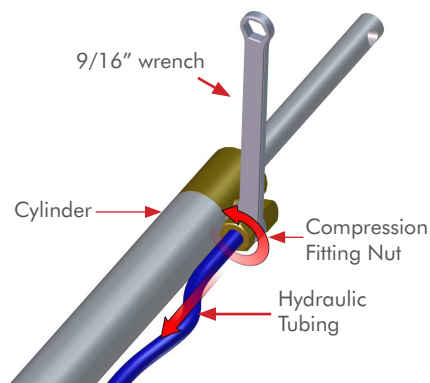

Figure 1
STEP 1 Cut the zip tie securing the **BLUE Hydraulic Tubing** to the **Cylinder** and use a **9/16"** wrench to unscrew the **Compression Fitting Nut**. **FIG 1**